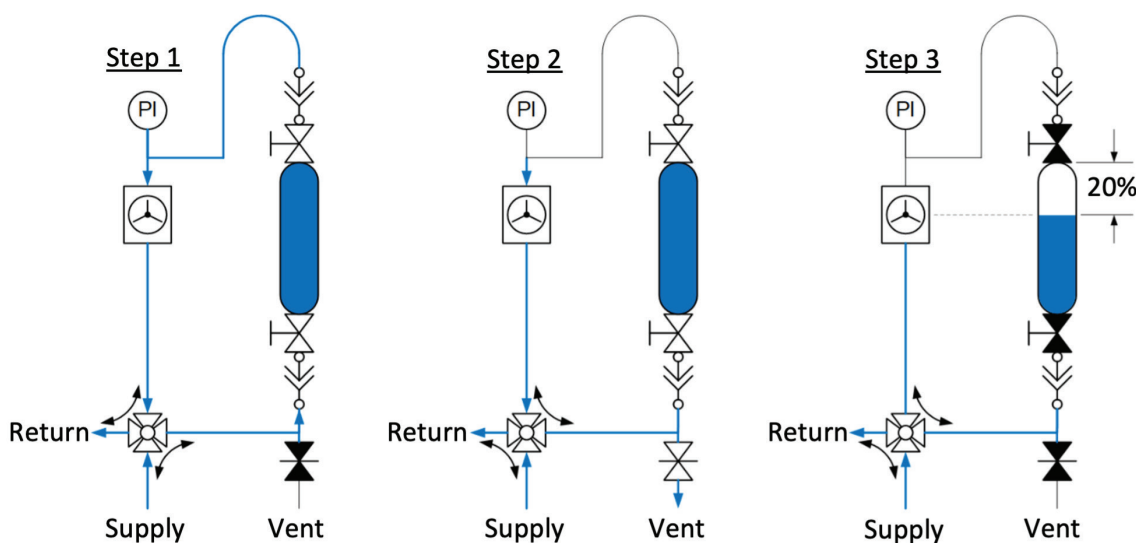

Figure 3: Traditional LPG Sampling Steps
As shown in Figure 3, Step 1, with a traditional LPG sampler, the cylinder is installed in a sample panel, and sample liquid flows through the cylinder. After the cylinder is flushed and a representative sample is achieved, the panel is switched to a bypass mode. In addition to allowing the sample flow to bypass the panel, it also isolates a loop on the sample panel, including the sample cylinder. Note that at this point the cylinder is 100% liquid-full.
Once the loop is isolated, a vent valve is opened, which allows the pressure to drop. Because LPG is a volatile liquid, dropping the pressure allows the liquid to begin boiling and the vapors to collect at the top of the isolated loop (Figure 3, Step 2). The liquid level will slowly drop as more and more of the sample changes phase from a liquid to a gas. Eventually the liquid level will drop to the point where there is a 20% vapor space in the cylinder, which is dictated by ASTM D1265, Standard Practice for Sampling Liquefied Petroleum (LP) Gases (Manual Method). The operator can see this liquid level because on the side of the loop opposite the cylinder, a sight flow indicator or level gauge is strategically positioned so that the liquid level is visible when the cylinder has a 20% outage. Alternatively, a temperature-indicating strip might be affixed to the exterior of the cylinder, which would also be a good indication of liquid level. Once at this position, the operator closes the vent valve to stop the boiling, isolates the sample in the cylinder, and removes the cylinder from the panel (Figure 3, Step 3).